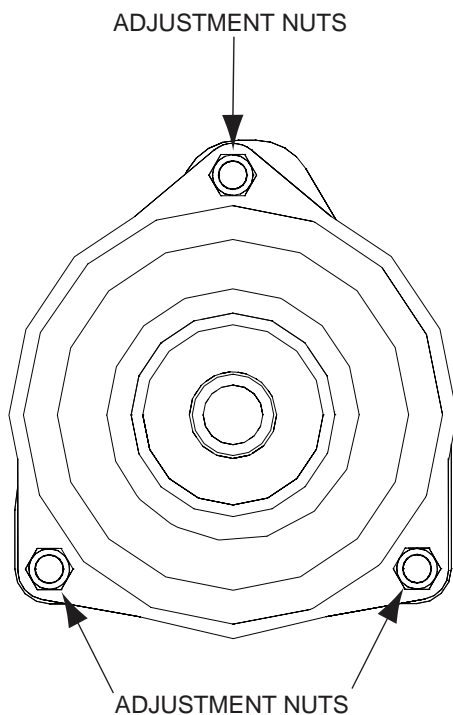

Figure 6-5. Clutch Air Gap Adjustment
3. Tighten or loosen the adjusting bolt as needed to achieve the 0.015 inch airgap. See Figure 6-5. Perform this operation at all three inspection windows.